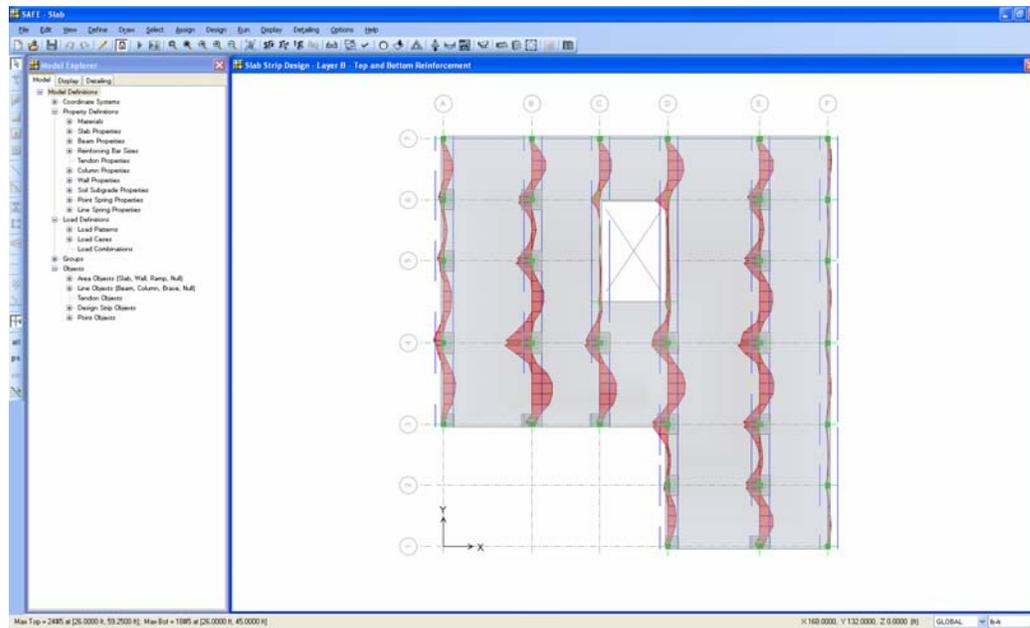

Figure 41 Layer B reinforcing
- K. Click the **OK** button to leave the Slab Design form and display the slab design results for the Layer B direction. The view will be updated to that shown in Figure 41. Again, positioning the cursor anywhere on the strips will result in the display of the reinforcing values in the lower left-hand corner of the SAFE window.